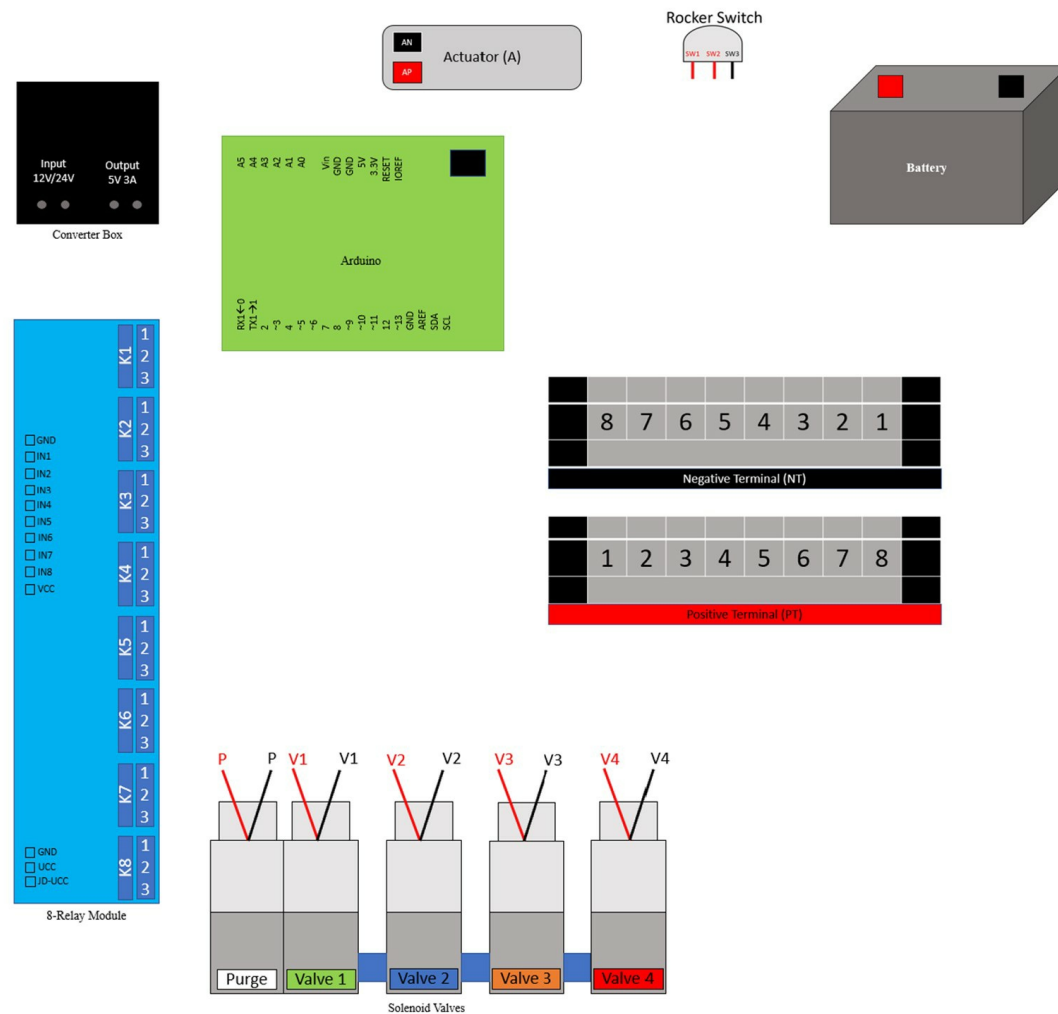

Figure 4. Electrical component arrangement.
- 11.3** Arrange the electrical components following Figure 4.